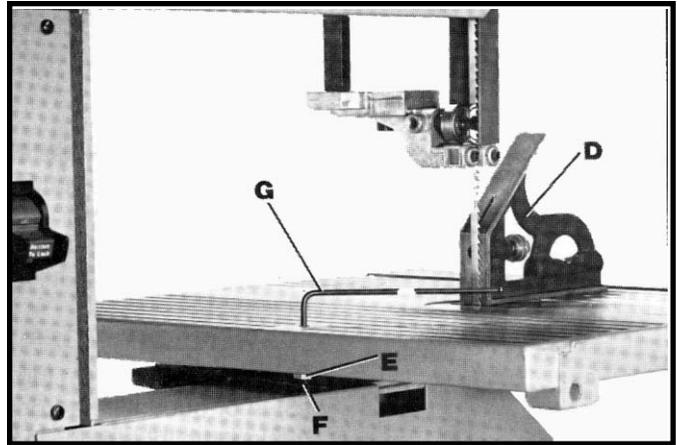

Fig. 26
2. A positive stop is provided to insure that the table is returned 90 degrees to the blade after tilting. Place a square (D) Fig. 26, on the table and against the blade and check to see if the table is 90 degrees to the blade as shown. If an adjustment is necessary, loosen lock nut (E) and turn screw (F) with wrench (G) until table surface is 90 degrees to blade, and screw (F) is contacting the frame. Then tighten locknut (E).